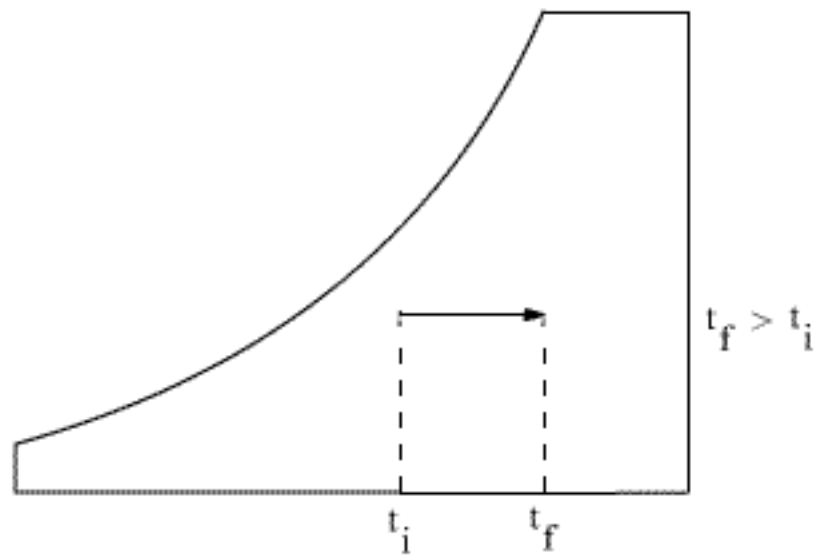

Figure 3.4. Heating air by adding sensible heat.
- 2) **Heating:** is the process of adding sensible heat. The wet-bulb temperature and total heat content increase and the relative humidity decreases. The dew-point temperature and the moisture content do not change. (Figure 3.4)